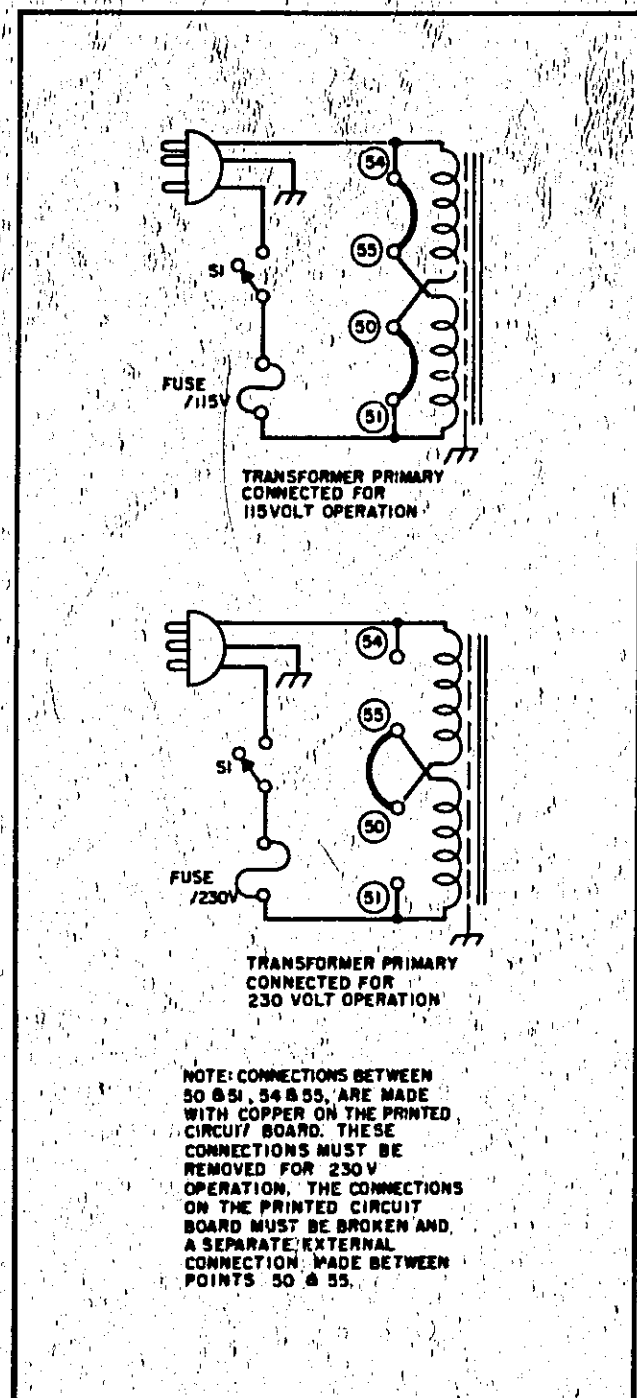

Figure 2-4. Primary Connections
b. Break the copper between 54 and 55 and also between 50 and 51 on the printed circuit board. These are shown in Figure 2-4, and are labeled on copper side of printed circuit board.